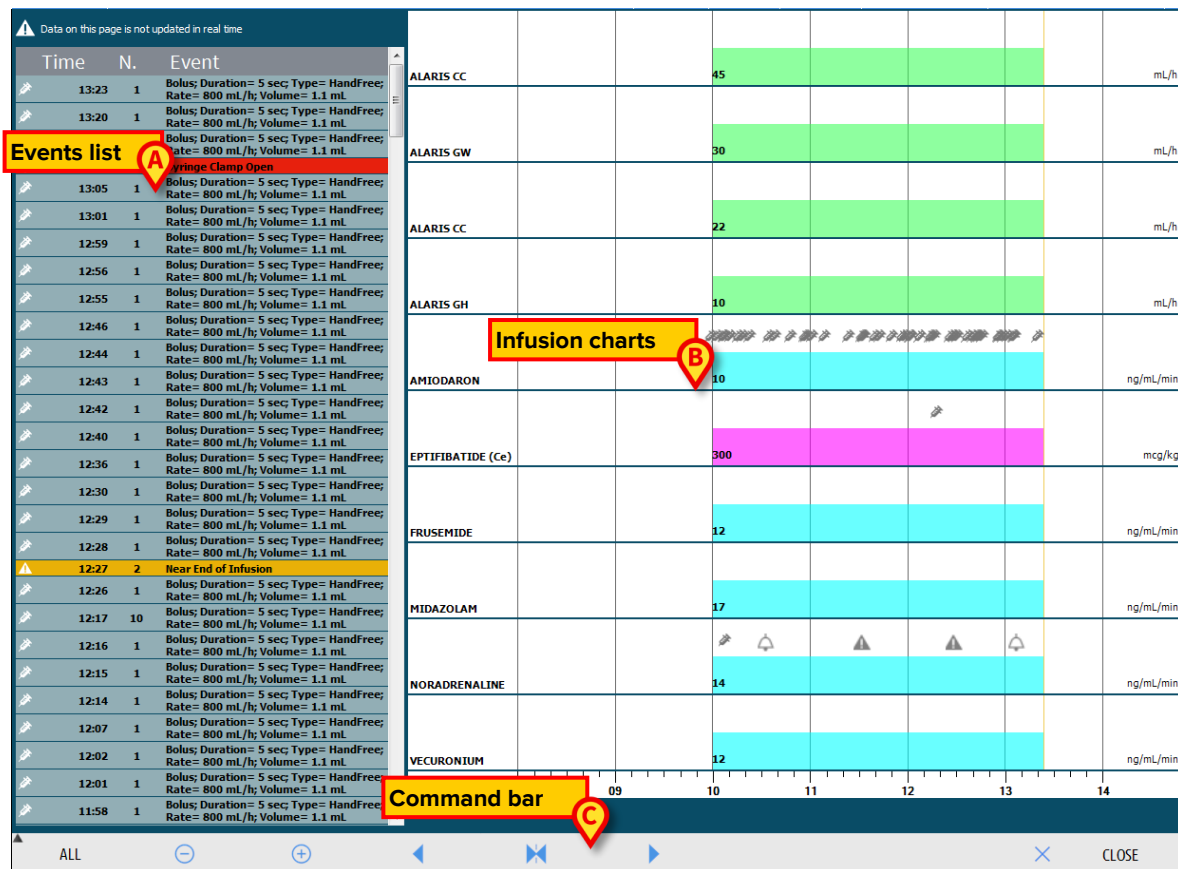

Fig 17
- a list of all the events occurred on all the pumps connected to the selected patient during his stay (Fig 17 **A** – see page 15);
- a chart representing all the patient’s infusions (Fig 17 **B** – see page 17);
- a command bar making it possible to manage the chart display mode (Fig 17 **C** – see page 16).